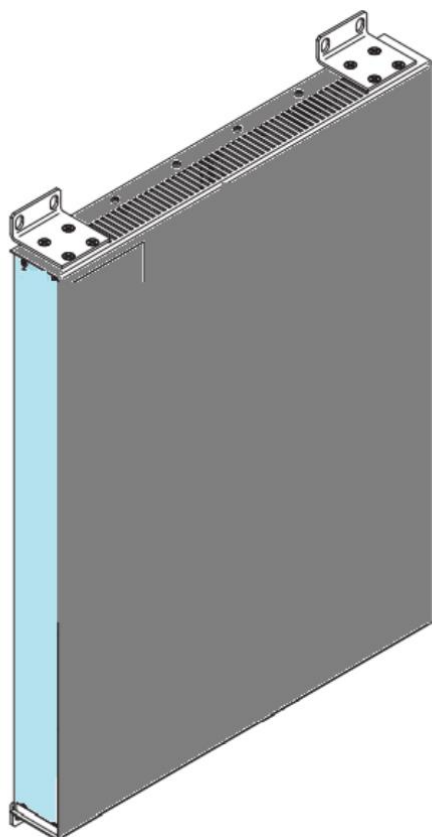

Figure 29: Installing the device on a vertical flat surface
- ☐ Install the 2 screws to attach the mounting brackets to the wall. See Figure 29.